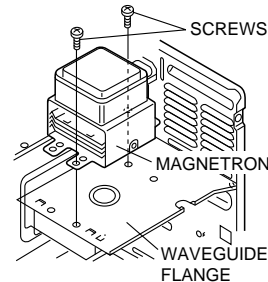

Figure C-1. Magnetron replacement
1. Re-install the magnetron to waveguide flange with the two (2) screws diagonally as shown in Figure C-1.
2. Insert the two (2) tabs of the chassis support to the oven cavity front plate and the back plate.
3. Re-install the chassis support to magnetron with the one (1) screw.